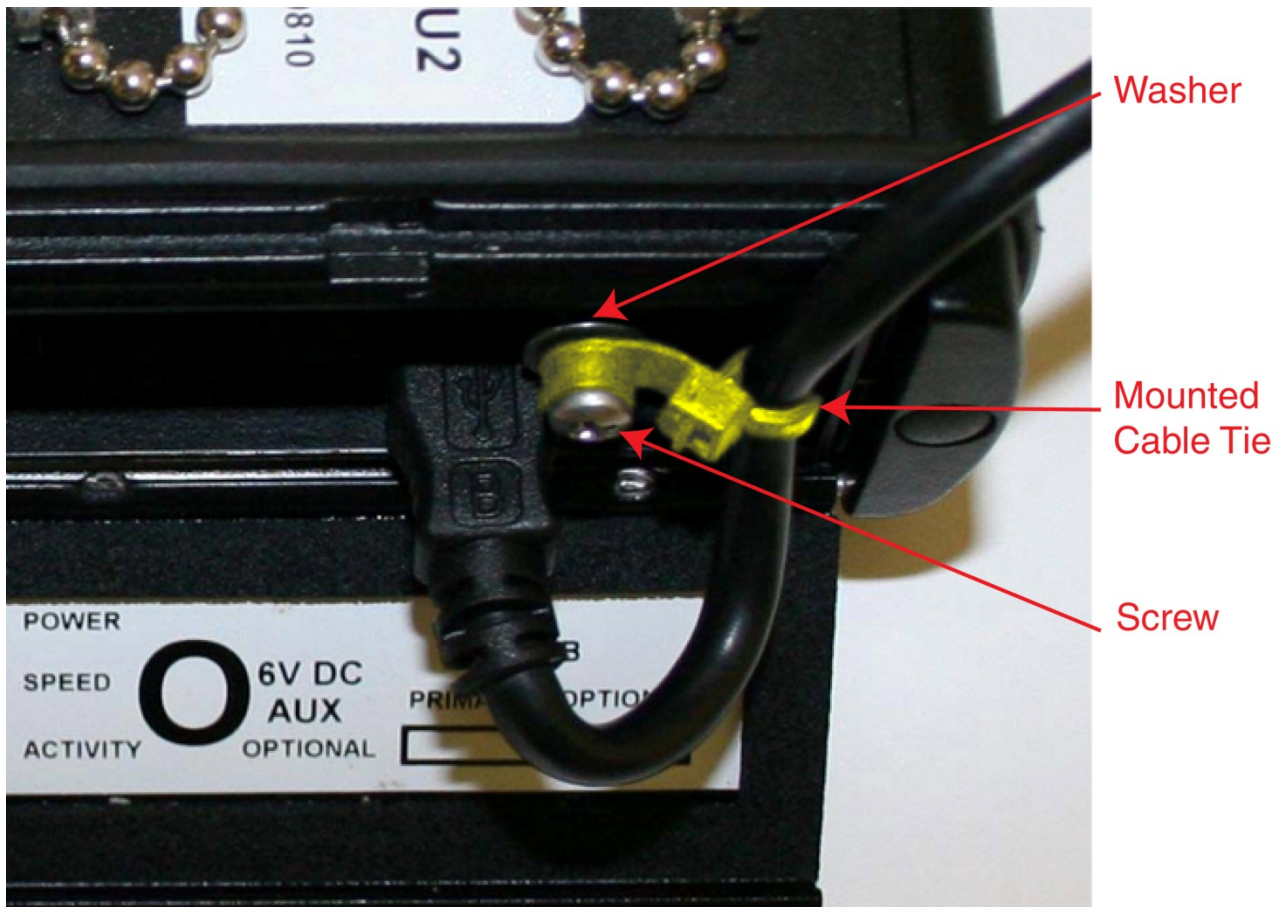

Figure 6. USB Cable Strain Relief
Strain relief may be applied to the USB cable by using the supplied mounted cable tie, cable tie washer, and screw as detailed below (see Figure 6).
1. With the mini-B end of the USB cable plugged into the **BU-67X02U** device, attach and tighten the mounted cable tie to the USB cable as shown in Figure 6.